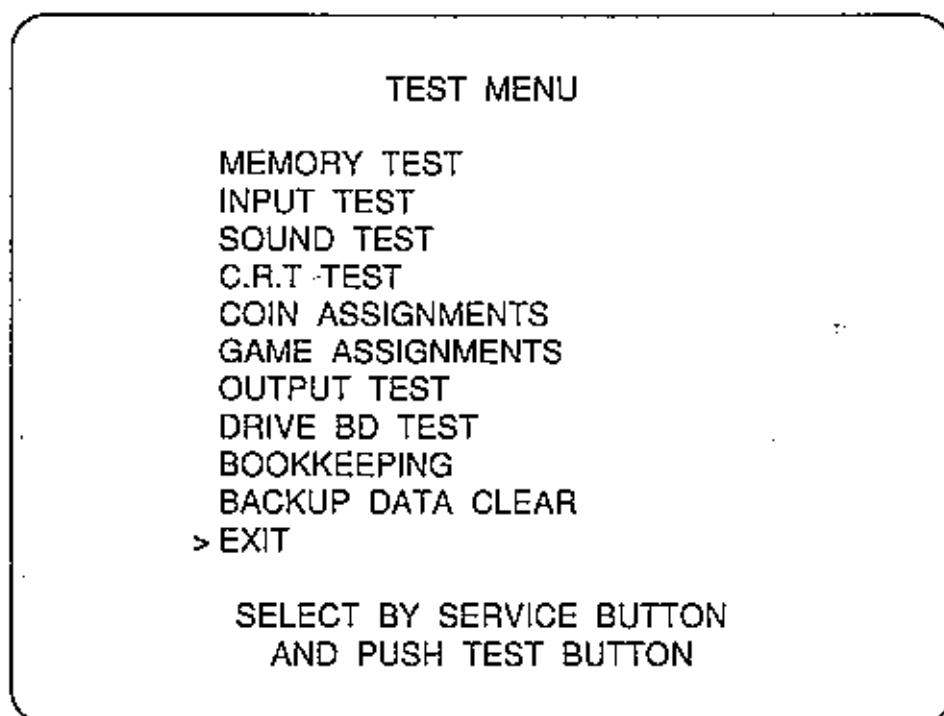

FIG. 8.2 TEST MENU
- Press the TEST BUTTON to cause the following Test Menu to be displayed on the monitor. (FIG. 8.2)
- Press the SERVICE BUTTON or VIEW CHANGE BUTTON (VR) until the pointer ">" is moved to the desired item to make a selection.